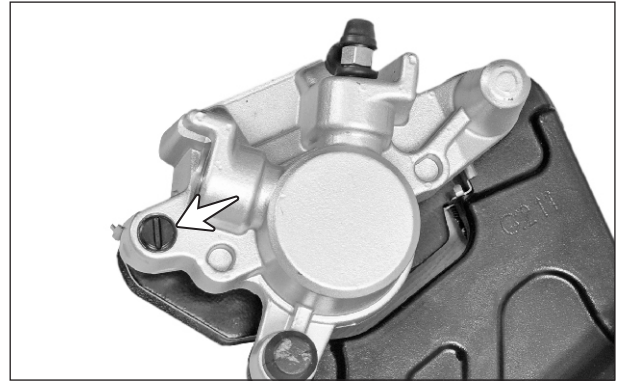

Fig. 6.113
- Remove the plug pin from the caliper housing. (Fig. 6.113)